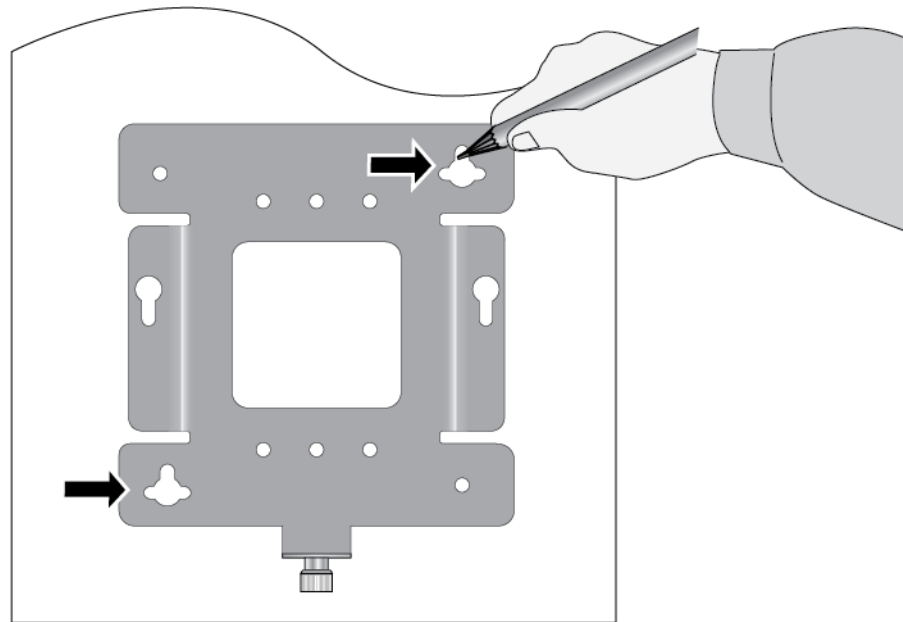

Figure 21. Marking the Holes for the Key-Hole Slots
3. With a pencil, mark the wall or ceiling with the two key-hole slots of the bracket. Refer to Figure 21.